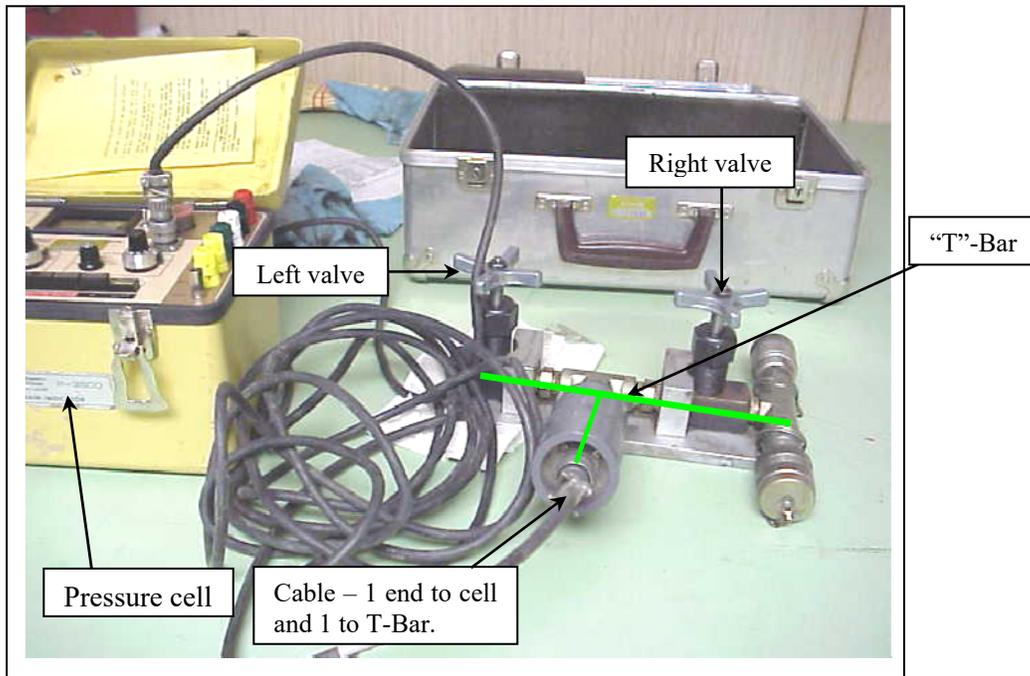

Figure B-4.
4. Plug in cable at both ends (1 to pressure cell, 1 to “T” bar) – (See Figure B-4).
5. Close the right valve and open the left valve on the “T” bar (See Figure B-4).